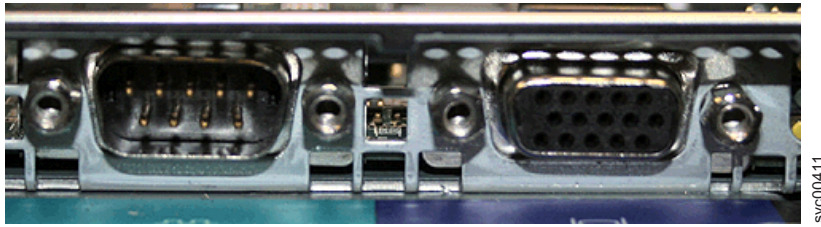

Figure 240. Serial and video ports on the SAN Volume Controller 2145-8G4
17. Remove the four stand-off screws from by the serial and video I/O ports at the rear of the node. Figure 240 on page 570 shows the location of the stand-off screws.